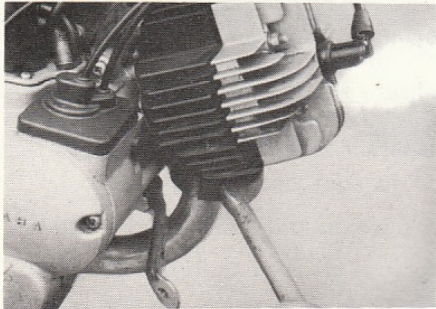

Fig. 3-9
7. Remove the exhaust ring nut, and remove the exhaust pipe from the muffler. (Fig. 3-9)